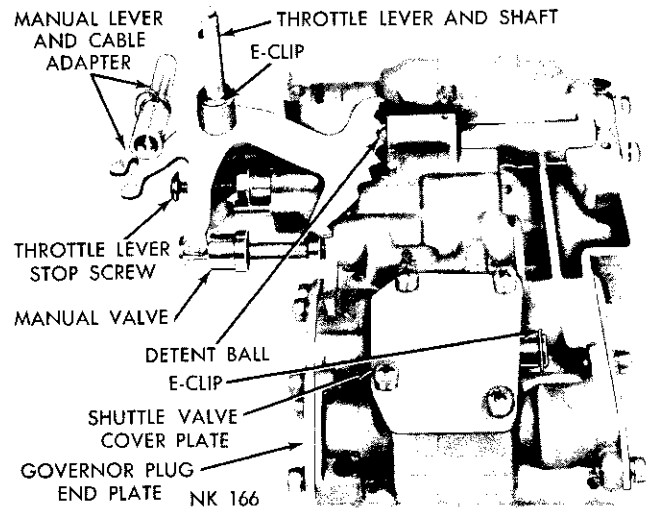

Fig. 61—Valve Body Controls (Assembled View)
shaft (Fig. 61). Remove any burrs from the shaft, then while holding the manual lever detent ball and spring in their bore with Tool C-3765 or similar tool, slide the manual lever off the throttle shaft. Remove the detent ball and spring.
(10) Remove the manual valve, carefully slide it out of the valve body with a rotating motion.
(11) Remove the throttle lever and shaft from the valve body.
(12) Remove the shuttle valve cover plate (Fig. 61). Remove the E-clip from the exposed end of the shuttle valve.
(10) Install the throttle lever and shaft on the valve body (Fig. 64). Insert the detent spring and ball in its bore in the valve body. Depress the ball and spring with Tool C-3765 or similar tool and slide the manual lever over the throttle shaft so that it engages the manual valve and detent ball. Install the retaining E-clip on the throttle shaft. (Fig 61).